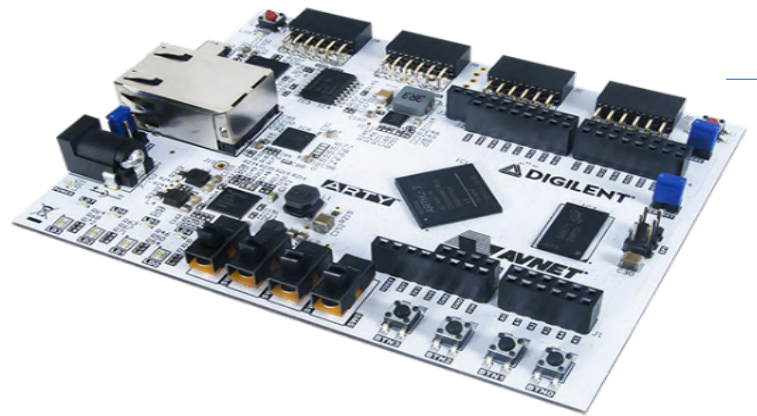

Figure 3: Arty FPGA Development Board Capable of Running RISC-V Software (Photo: digilentinc.com).
- Universities and research institutions can elect open-source RISC-V core on FPGA to teach and research in areas like computer architecture, OS, compiler, and embedded system. As an example, Arty FPGA development board that implements SiFive open-source Freedom E310 MCU (as shown in **Figure 3**) is a mature platform with good software toolchain support [8].